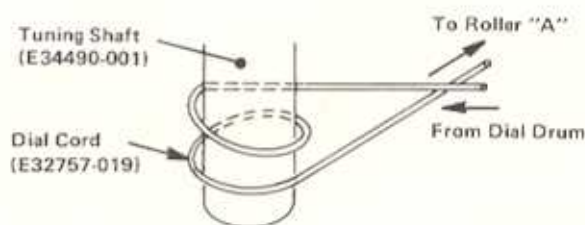

Fig. 11
- (3) Rotate the tuning capacitor dial drum to its maximum counterclockwise.
- (4) Run the dial cord through the slot in the rim of the dial drum.
- (5) Pull dial cord taut and wrap 2 turns counterclockwise around tuning shaft. Refer to Fig. 11.
- (6) Guide the dial cord under and around rollers "A" and "B". Keep the dial cord taut during this procedure.